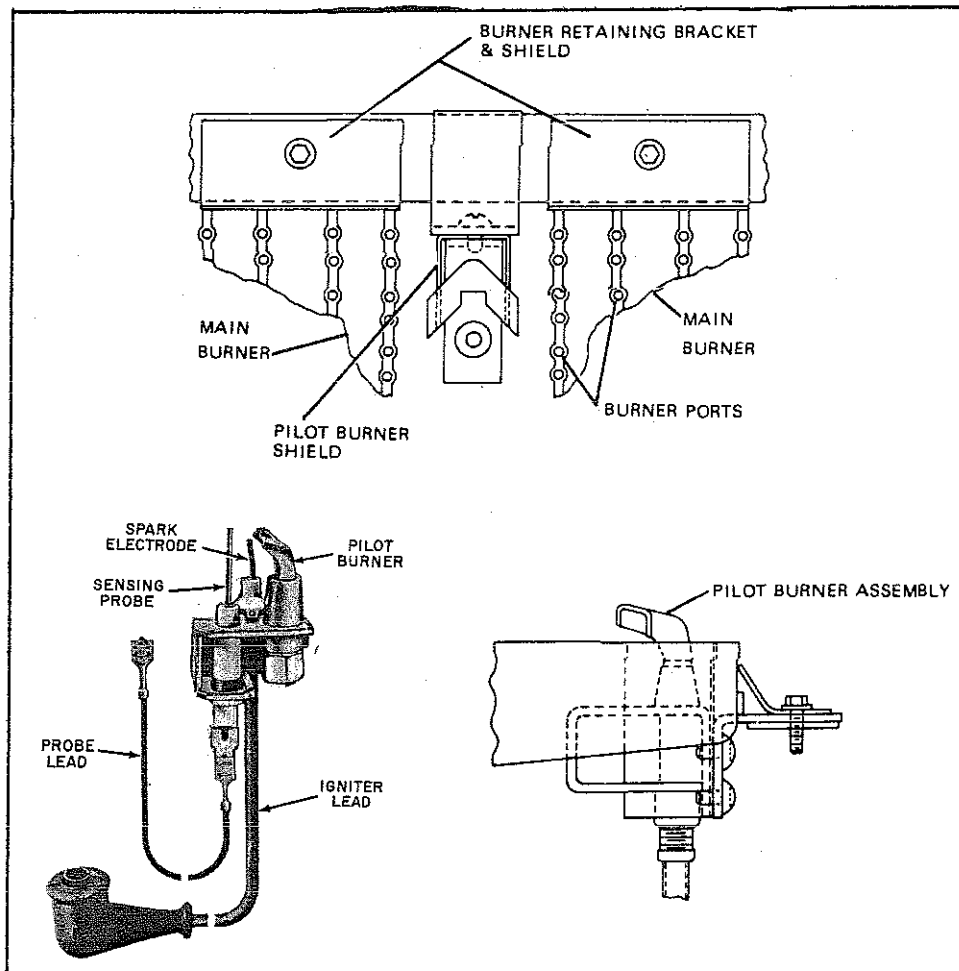

Figure 3-9. Pilot Burner Assembly
3. Remove the two screws holding the pilot burner and shield to the bracket. (Refer figure 3-9).
1. Remove the screw securing each burner retainer bracket, remove retainers. (Refer figure 3-9).